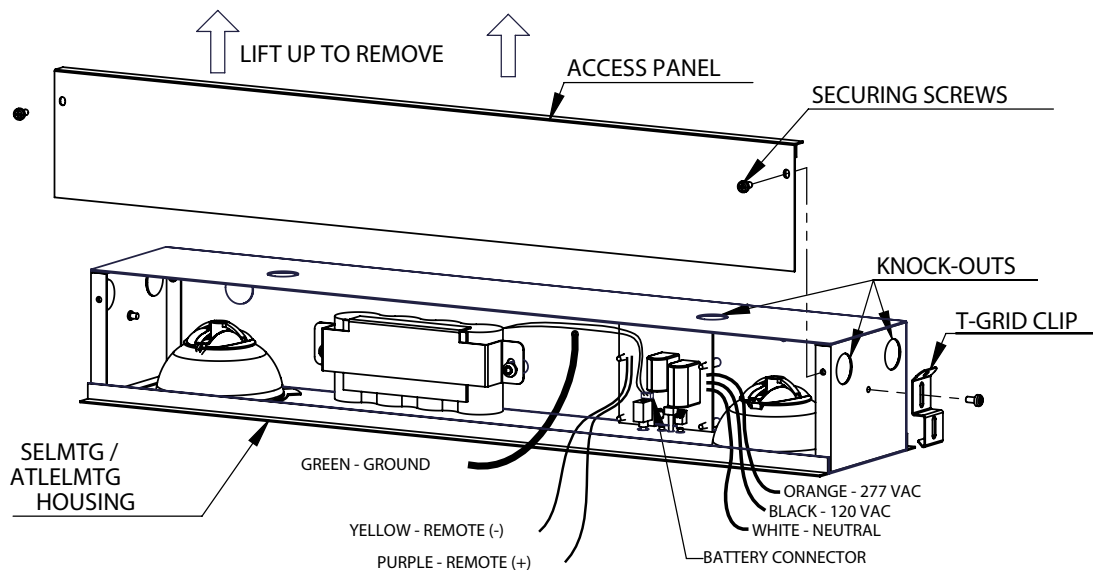

Figure 2
2. Open the unit by removing the screws securing the side access panel. Lift the access panel up to remove it. (Figure 2)
3. If using the T-Grid clips, install them now. Remove the screws from the ends of the unit and install the clip between the housing and the screw. If securing the unit back to structure, it is recommended to use the T-Grid clip as a connection point. NOTE: Always install the unit in accordance with all applicable codes and regulations. (Figure 2)
6. Bring wires into the unit and connect the power supply and ground in accordance with local codes. Wire connections as follows: 277 VAC line to Orange lead or 120 VAC line to Black lead; Neutral to white lead. Ground to Green wire; Cap unused line lead. (See Figure 2)